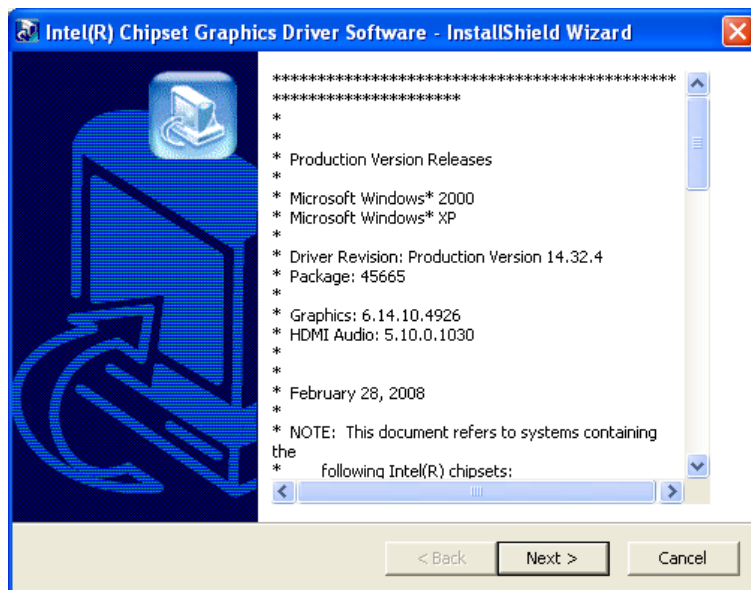

Figure 6-8: VGA Driver Read Me File
- Step 2:** The VGA Read Me file in **Figure 6-8** appears.